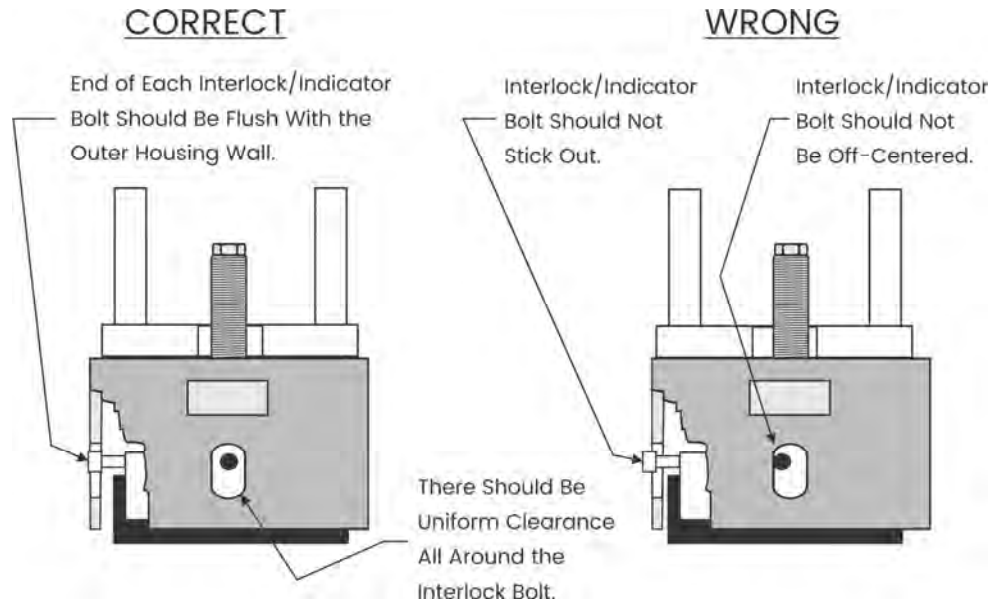

Figure 12
10. Check to be sure that the interlock/indicator bolts are centered *side-to-side* in their slots on all four sides of the isolator housing. See Figure 12.
12. Micro/Level Isolators are designed to have a clearance between the support housing and the resilient cushion to provide maximum isolation effectiveness. See Figure 12.